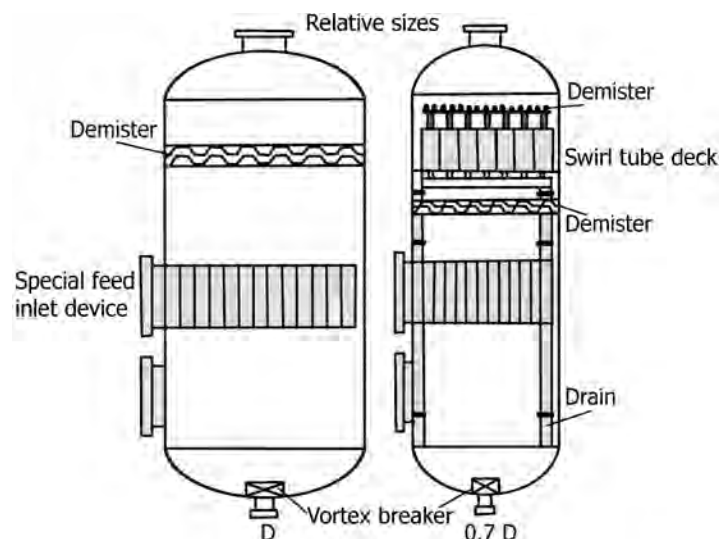

FIGURE 16.41 Gas–Liquid separators. (Courtesy: Copyright © Sulzer Chemtech Ltd.)
- Figure 16.41 gives propriety designs of vapor/gas–liquid separators by Sulzer, incorporating special features: